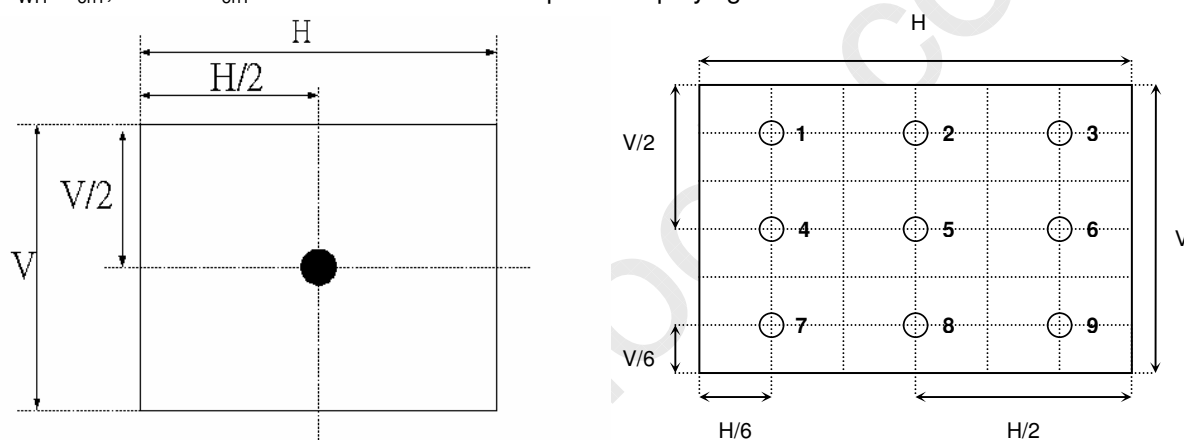

Fig.4-2 Optical measurement point
2. Surface luminance is luminance value at point 1 across the LCD surface 50cm from the surface with all pixels displaying white. From more information see Fig. 4-2. When $V_{DDB} = 24V$, $I_{DDB} = (TBD)$. $L_{WH} = L_{on1}$, Where L_{on1} is the luminance with all pixels displaying white at center 1 location.